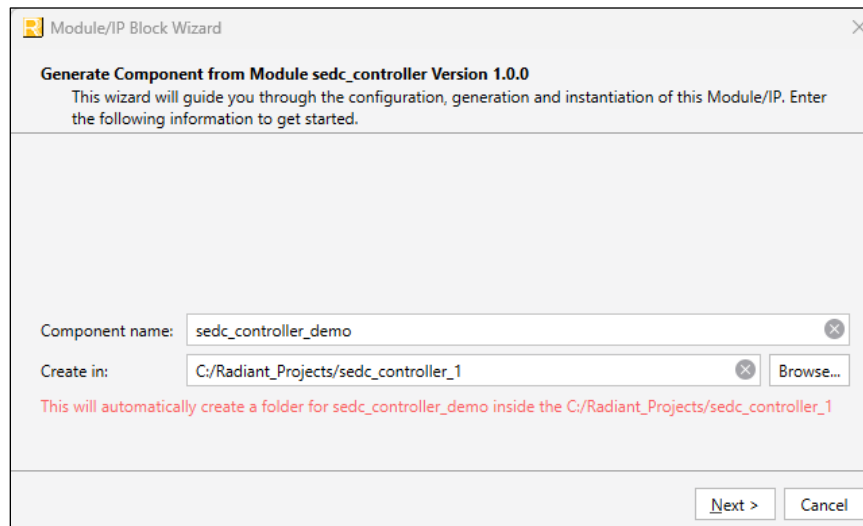

Figure 5.1. Module/IP Block Wizard
2. In the **IP Catalog** tab, double-click **SEDC Controller** under **IP on Local > Architecture_Modules** category. The **Module/IP Block Wizard** opens as shown in Figure 5.1. Enter values in the **Component name** and the **Create in** fields and click **Next**.
- Click **Finish**. All the generated files are placed under the directory paths in the **Create in** and the **Component name** fields shown in Figure 5.1.